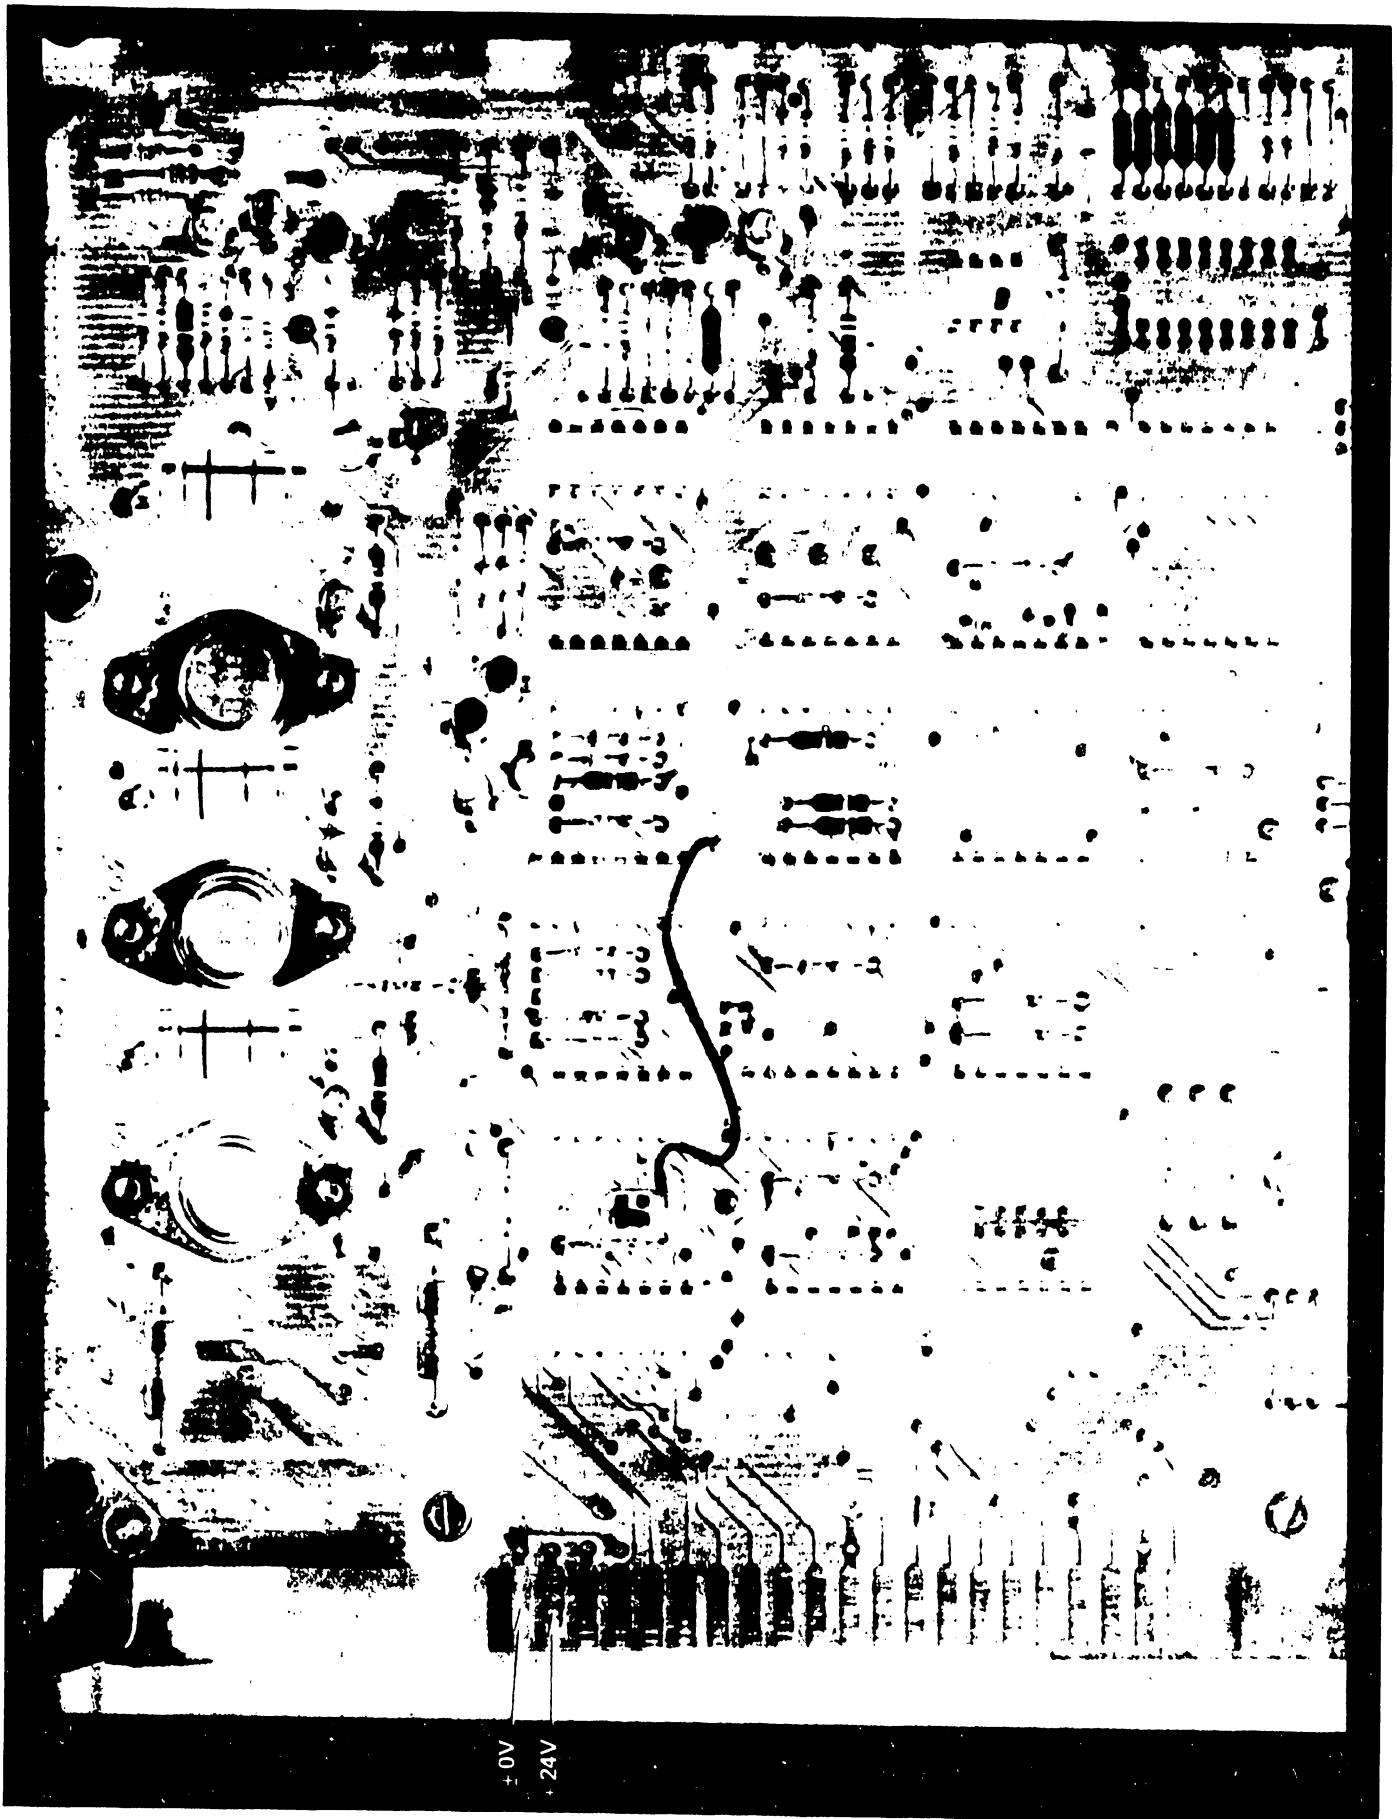

FIGURE 2-2 MODEL SA901 SHUGART ELECTRICAL PCB
Each Shugart disk drive is connected by a ribbon cable to the Master Motherboard. The +24V is routed via the cable to the disk drive and can be checked at pin 2 of the 6767 connector. (See Figure 2-2)
4. Turn power OFF and replace the PWR.REG. board 7206. Monitor the +5 volts closely when the power is restored. If the +5 volt supply is low and can not be adjusted, turn the power OFF. Remove and replace one board at a time and turn the power ON. Repeat this operation until the defective circuit board is found. Replace defective board. Check the +12 volts that supply the Master Memory board. (Memory chips are prone to short circuit B+ to 0 volts bus). Test the +24 volts on the diskette drives as shown in figure 2-2. Insure that both drives are running. If the drives are not running, go to step 5.
7. Turn Master power off--Remove the ribbon cables from J1 and J2 on the motherboard. Plug the archive drive ribbon into J1. (Archive is now the System drive). Do not plug in the system drive. (Use only one Drive at a time). Switch the diagnostic from the old system drive to the new system drive. Turn power on and reset. If master does not IPL, check +24 volts at the disk as illustrated in Figure 2-2. As a last resort, try another diagnostic diskette and if a third disk drive is available, try it. Replace diskette drives to their original connectors on the Motherboard. If this fails go to step 8.
10. With system disk inserted, check program level switches for proper address code. If the bank of eight switches are not arranged for the proper software code, the system will not operate. Error code (2) will appear on the CRT screen. See Appendix B for proper switch settings. If switch settings are correct, go to step 11.